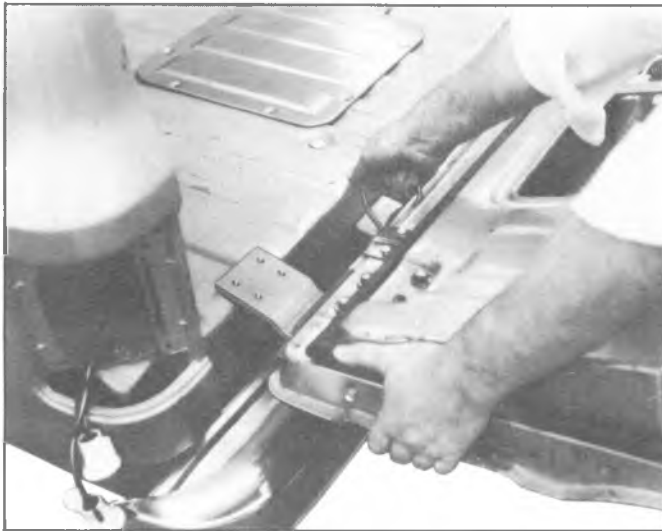

Fig. 2D-63--Grasping Torque Rod (14)
4. Pull the endgate away from the body several inches and withdraw hinge from body. Then lift endgate slightly to allow removal of hinge from endgate. See figure 2D-62.